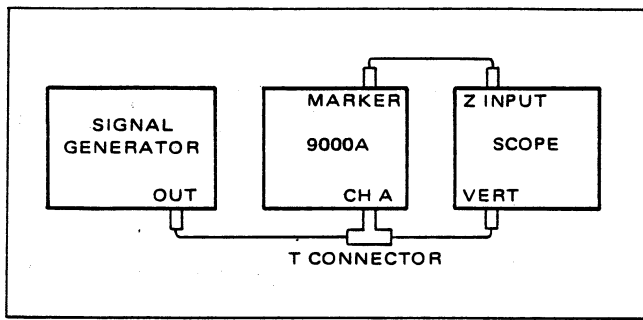

Figure 5.3 - Marker Hookup
- Apply a 100 Hz @ .3V P.P. signal to the channel A input and the oscilloscope vertical input; connect the marker output on the back of the counter to the oscilloscope Z axis (see figure 5.3).